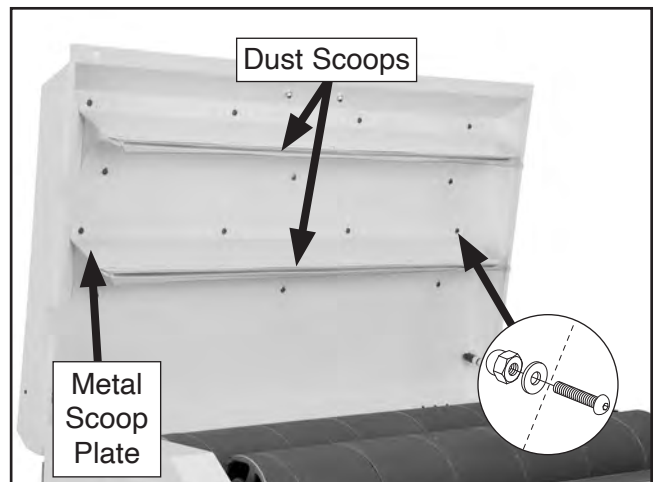

Figure 73. Location of dust scoop components.
3. Loosen button head cap screws and acorn nuts securing metal scoop plate to top cover (see **Figure 73**), move scoop up a little, tighten button head cap screws and nuts, close top cover, and rotate V-belt to see if drum contacts scoop.